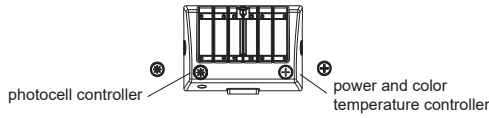

figure 5.2
Step 2: Then slide the switch up and down to adjust the power controller, CCT controller or photocell controller in your demand. (figure 5.2)